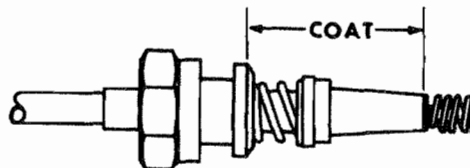

Figure 913. Lubricating Sleeve
- A. If used, insert gasket between plate (42) and magneto. Install outlet plate (42) onto magneto (number one cable will be in upper left). Evenly draw down nuts (65) and lockwashers (66) or screws. Apply 17-19 lb. in. torque to harness securing nuts (65) or 25-35 lb. in. to screws.
- C. Prior to seating spark plug lead terminal in plug barrel use MS-122 fluorocarbon spray on spark plug terminal insulating sleeves (33,46,47) to prevent heat from sticking sleeve to spark plug barrel. See Figure 913.